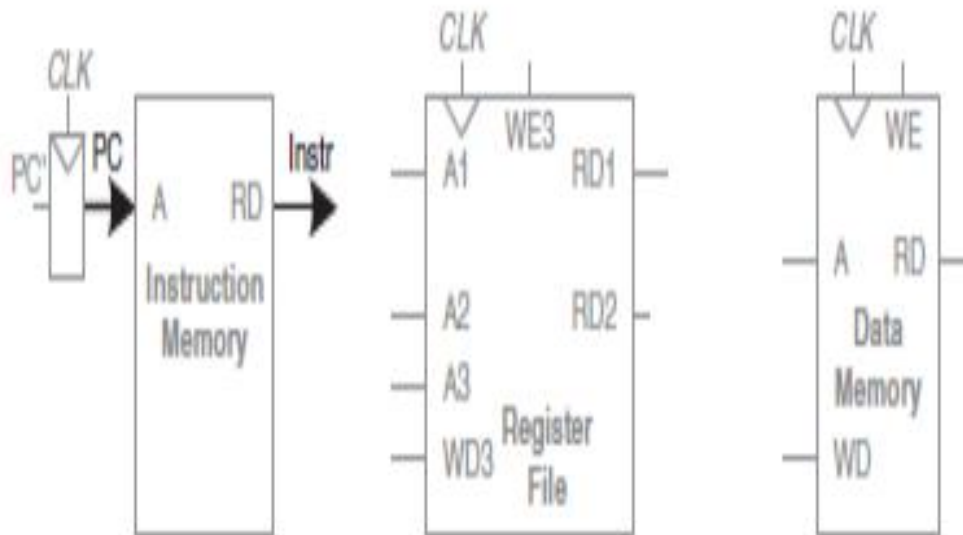

Figure 7.2 Fetch instruction from memory
- The program counter (PC) register contains the address of the instruction to execute.
- The first step is to read this instruction from instruction memory. Figure 7.2 shows that the PC is simply connected to the address input of the instruction memory.